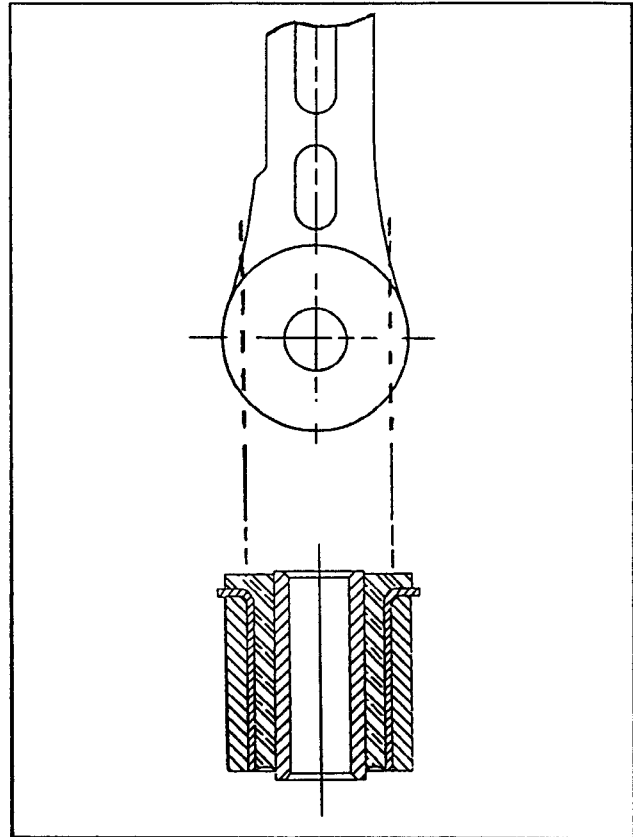

Fig. 9 Lower wishbone bush removal
14. Use a hacksaw to carefully cut away two sides of the metal flanges of the lower wishbone bushes (Fig. 9) without damaging the wishbone so that the wishbone can be supported between plates on a suitable press. Push out the lower wishbone bushes using the special tool (FX 4199).